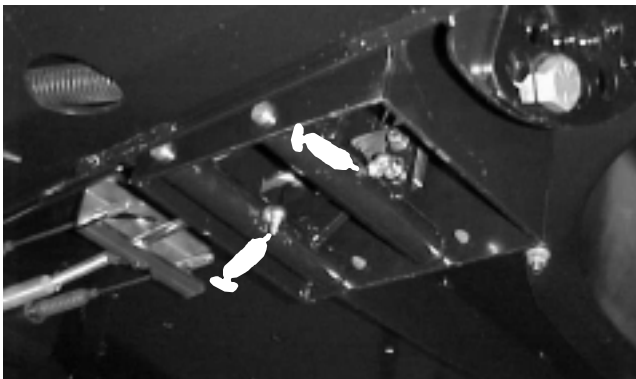

Figure 22
The throttle and brake pedal pivots (2) (Fig. 22) are not greased at the factory and should only be greased when and if the pedals begin to stick.